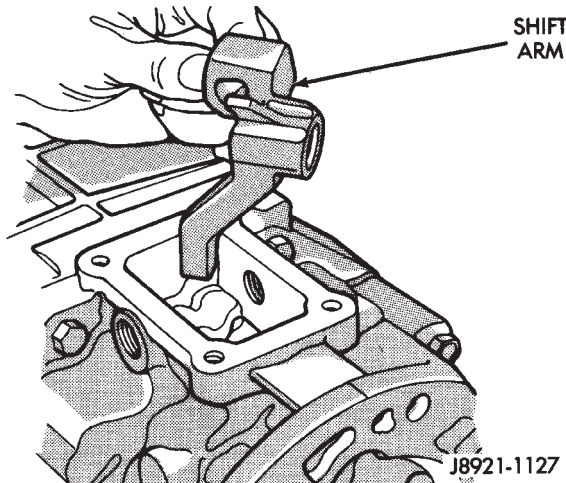

Fig. 39 Position Shift Arm in Adapter or Extension Housing
- (10) Position shift arm in shifter tower opening of adapter or extension housing (Fig. 39). Be sure that the shifter arm is engaged into the shift rails.